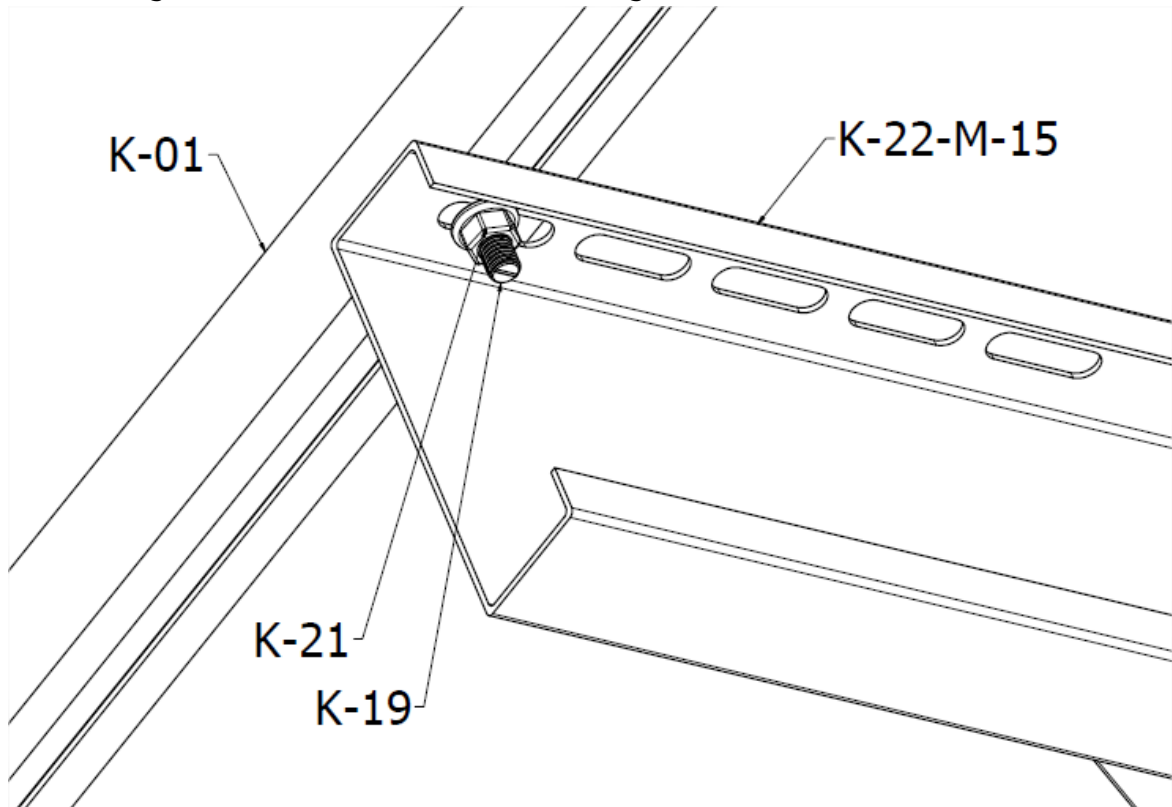

FIG. 14. Assembly of K-01 profile to K-22-M-15 coir
- 13.** In the next step, the pre-prepared K-01 profiles should be screwed to the K-22-M-15 rafters using K-19 T-bolts and K-21 nuts – Figs. 14 – 15.